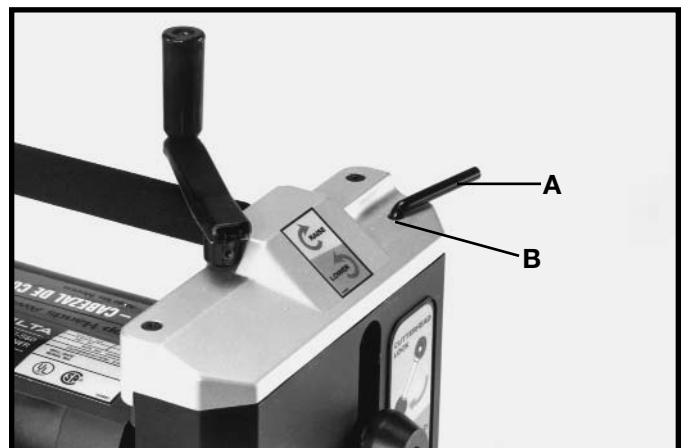

Fig. 23
The wrench (A) Fig. 23, can be stored in hole (B) located on the right rear side of the machine as shown.